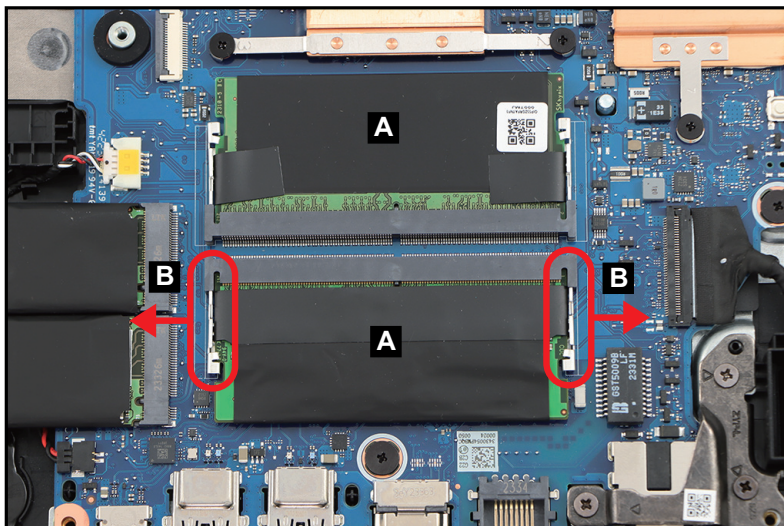

Figure 1-18. DIMM Module Removal
1. Find the DIMM modules (A) in the system (Figure 1-18).
2. Push the DIMM module clips (B) outwards (Figure 1-18).